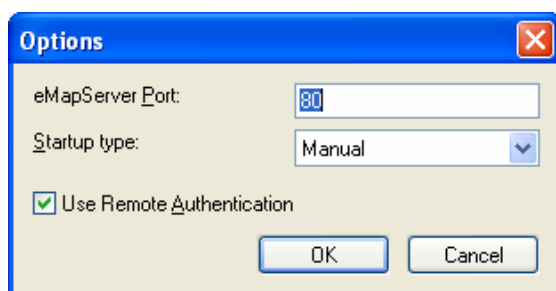

Figure 9-31
1. In the FBR window (Figure 9-31), click the **Plugin Component** icon. The User Define dialog box appears.
1. In the FBR Window (Figure 9-31), click **Customize Features**. This dialog box appears.
1. In the FBR window (Figure 9-31), click the **Backup GV-VMS Settings or Restore Defaults** icon, and select **Backup Current System**. This dialog box appears.